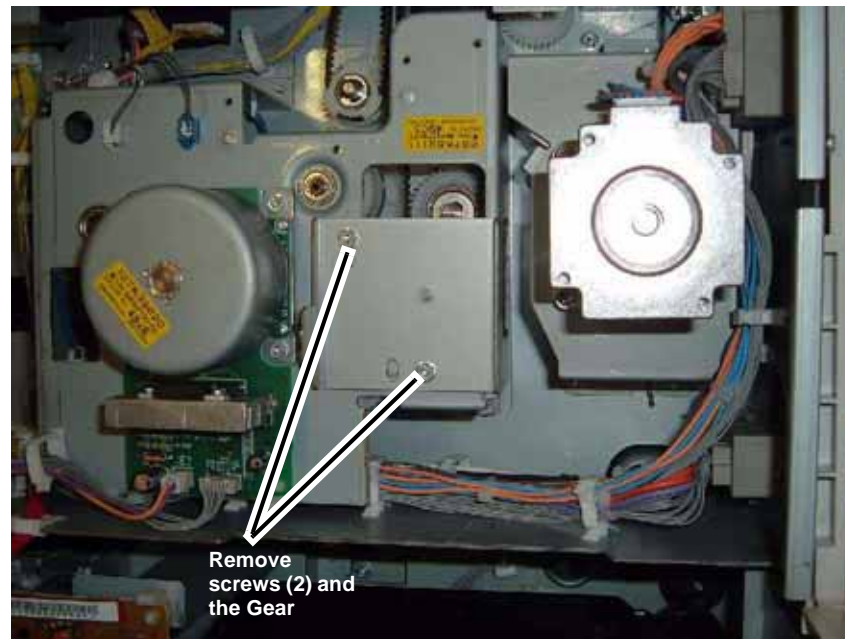

Figure 5 Removing the Gear Bracket
6. Remove the Gear Bracket (Figure 5).